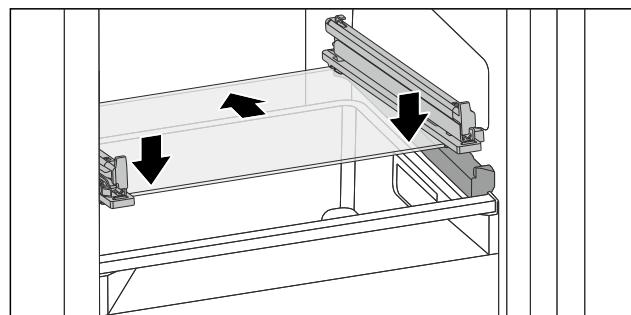

Fig. 132 Tilting drawer glass shelf
- Position glass shelf at an angle behind the stoppers. (see Fig. 132)